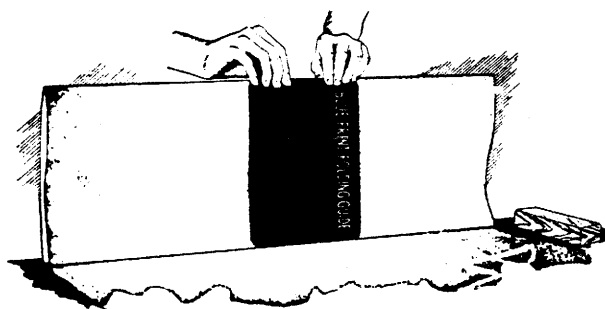

Figure 16-6.—Making second lengthwise fold in a large print.
2. Turn the print over and make the next lengthwise fold, as shown in figure 16-6. Continue turning over and folding until the width of the drawing is used up.